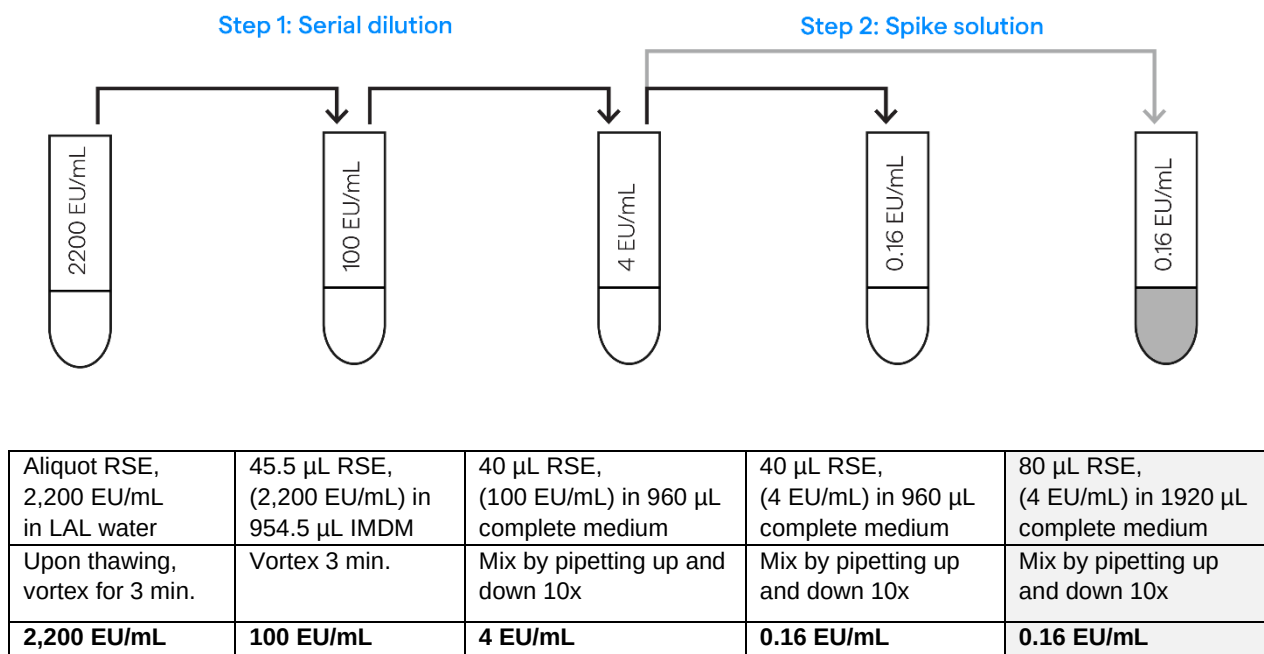

Fig. 6: Serial dilution to generate a 5-point standard curve. Prepare 0.16 EU/mL endotoxin dilution and 0.16 EU/mL spike solution. The final PPC is 0.08 EU/mL
An example for endotoxin dilutions for the preparation of a 5-point endotoxin standard curve, and a spike solution is given in **Fig 5**. Use sterile, non-pyrogenic borosilicated glass tubes (# N207) to dilute the endotoxin stock solution into the highest concentration of the endotoxin standard curve in complete medium as shown in **Fig 6** (step 1).
10. Save the remaining 4 EU/mL RSE solution prepared at step 4 for preparation of endotoxin spiked samples (see **Fig. 6**).